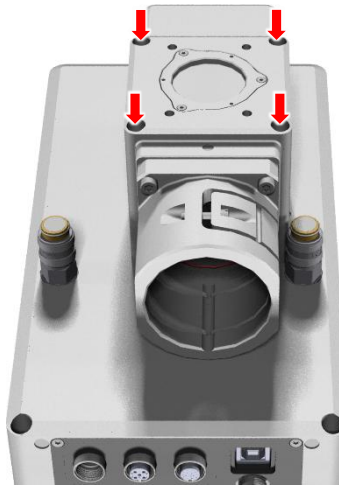

Figure 7: Dismounting the Laser Interface Adapter (LIA) from the scan head
3. Dismount the Laser Interface Adapter (LIA) from the scan head by loosening these screws; see Figure 7 on page 20.